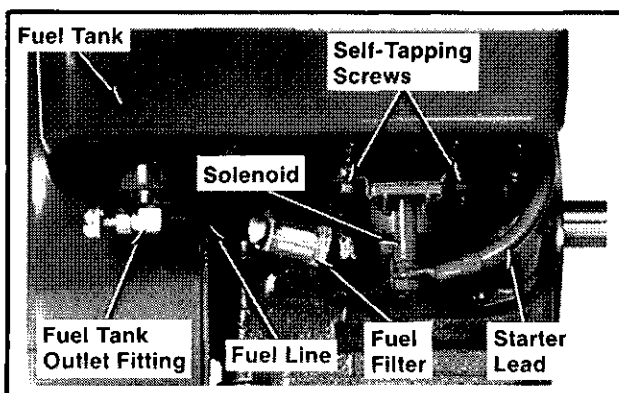

Figure 12B-42. Installing Fuel Tank And Solenoid.
8. Install the solenoid and self-tapping screws to fuel tank bracket. Install leads to solenoid and starter. Refer to Figure 12B-42.